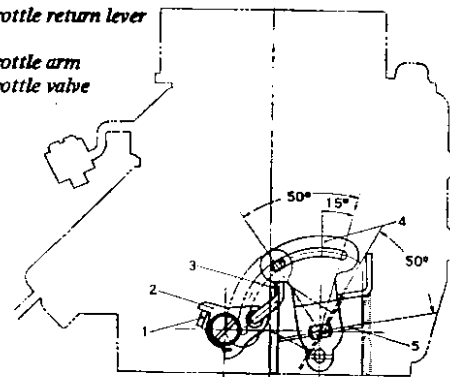

Fig. B.10 Adjusting the throttle valve interlock opening - D3034C carburettor
With the primary throttle valve of the type D3034C carburettor opened at an angle of 50°, the connecting link (3) in Fig.B.10 should be at the extreme left of the slot in the throttle arm (4). With the linkage positioned as shown, measure the clearance between primary throttle valve and the wall of the chamber as described for the DAK340 carburettor. Adjustment can be made, if necessary, by bending the connecting link until the correct clearance is obtained.